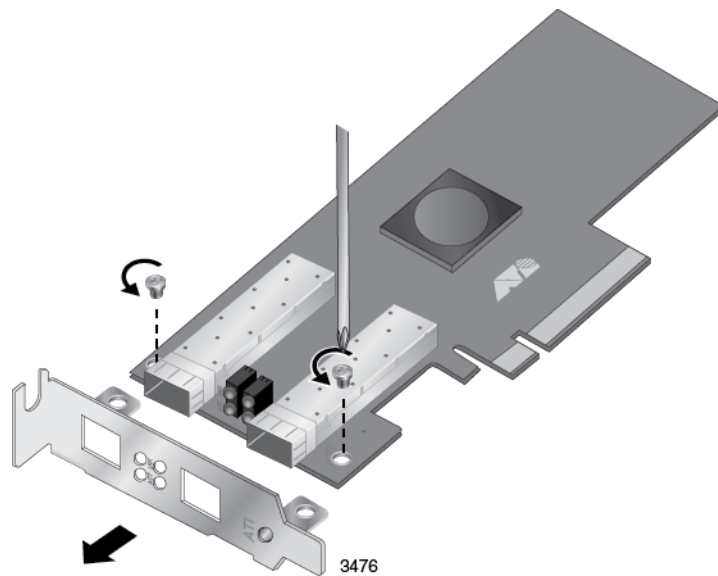

Figure 4. Removing the Low-profile Bracket
1. Remove the screws that attach the bracket to the adapter. See Figure 4.